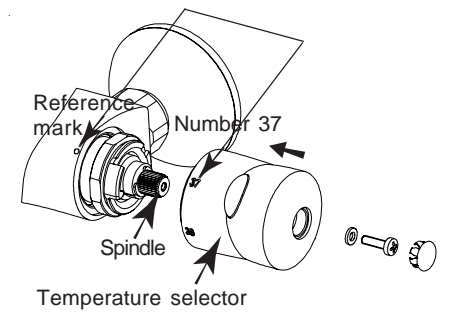

Fig. 1
- Install the temperature handle, (without turning the spindle) lining up the number 37 with the mark. Tighten the assembly with the screw. (See fig. 1)